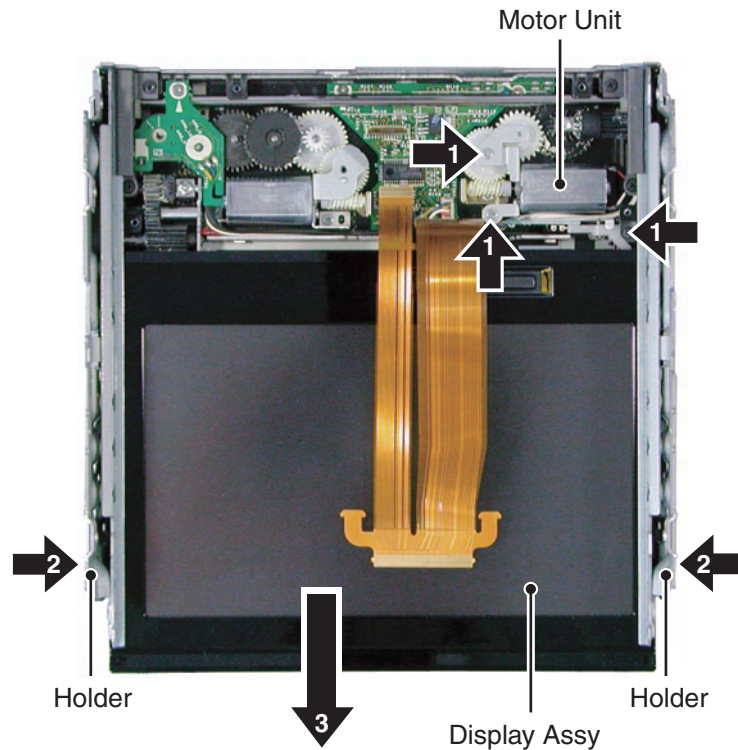

Fig.6
- ➡ **1** Remove the three screws.(Fig.6)
- ➡ **2** Remove the two screws and then remove the two Holders.(Fig.6)
- ➡ **3** Pull out the Display Assy in the arrow indicated direction.(Fig.6)